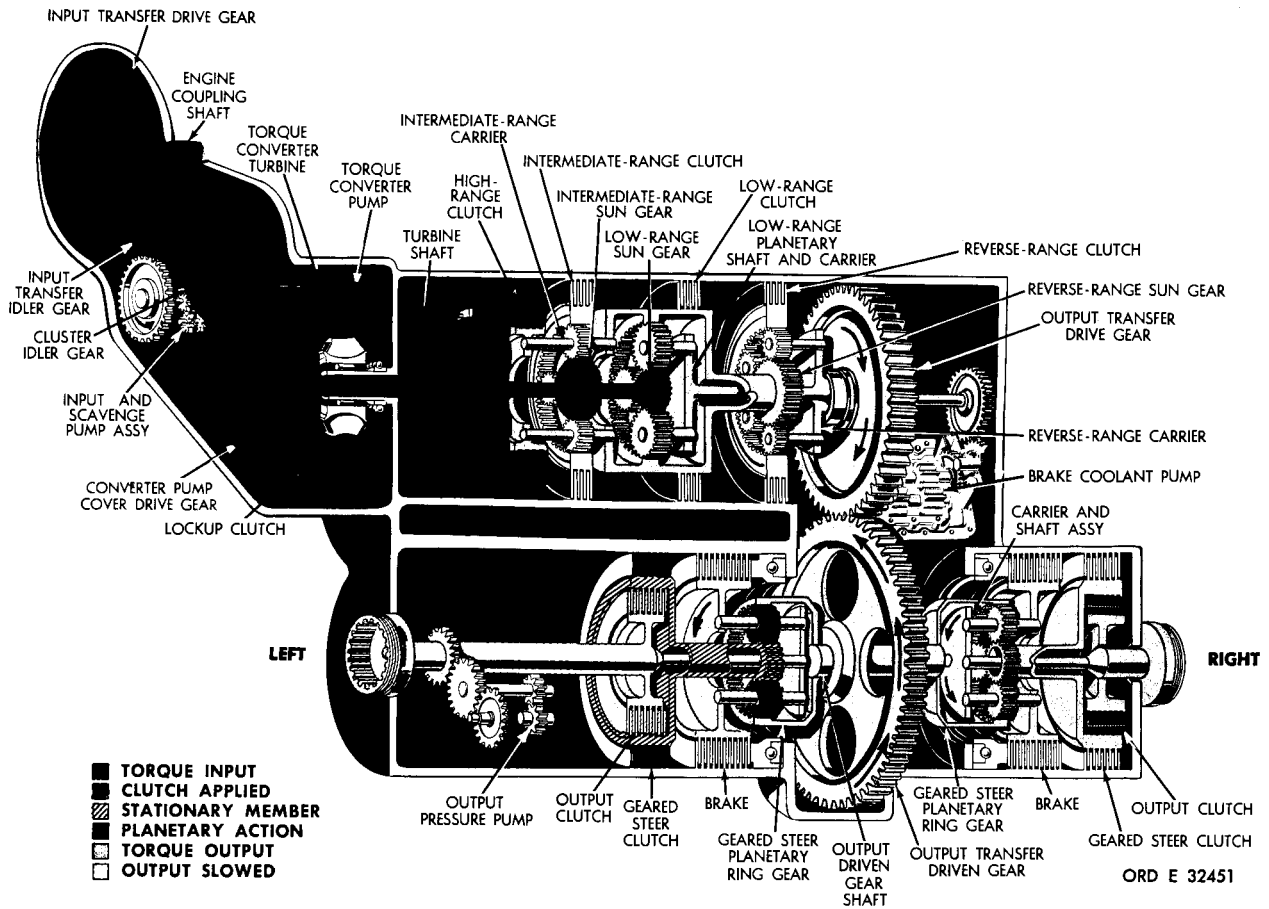

Figure 32. Fourth-gear, full-left-steer torque path, lockup operation
56. TORQUE PATH - FOURTH GEAR, FULL-LEFT STEER, LOCKUP OPERATION (fig. 32)